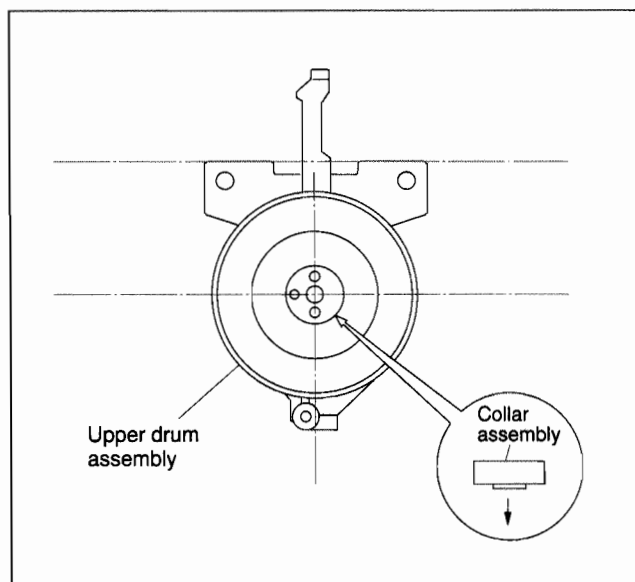

Fig. 2-2-46
- (3) Install the cap to the upper drum assembly.
- (4) Position the collar assembly as indicated in Fig.2-2-46 while controlling its up- down movement.